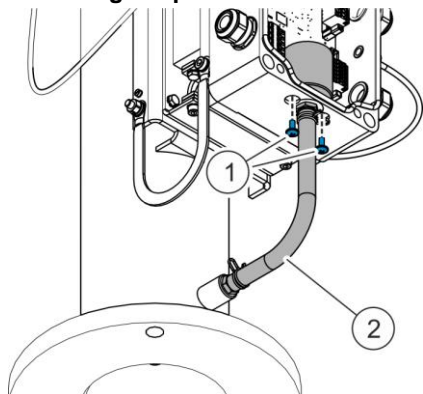

Fig. 57: Removing the screws on the pressure sensor
4. Undo screws (Fig. 57/1) and set them aside where they cannot be lost.
5. Remove connecting hose (Fig. 57/2).